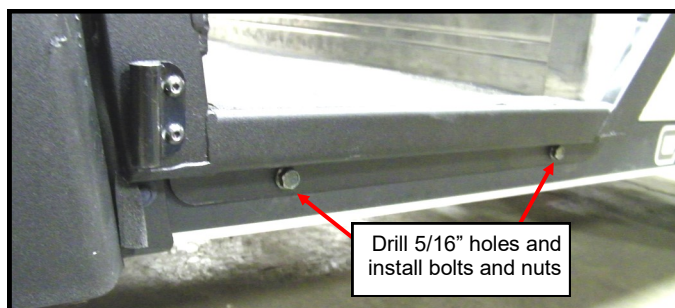

Figure 6.3: Floorboard bolts
6.3 Drill a 5/16" hole through the two holes in the lower flange of each floorboard (**Figure 6.3**), through the structure of the Carryall, and install a 5/16" bolt and nut through these holes. Tighten to 17 ft.-lbs. (23 N-m)